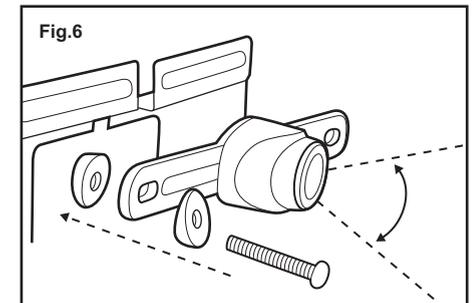

Fig.6
4. If required, angle the camera down using the wedges supplied as shown (Fig 6).